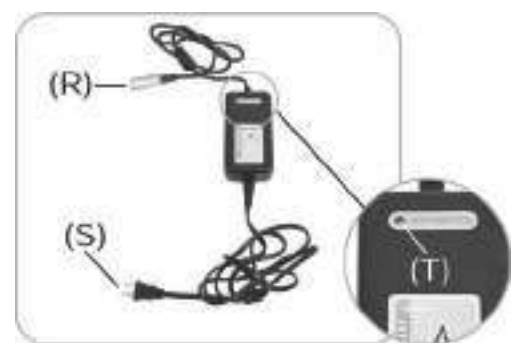

Figure 29
- Output Voltage: 100V~240V (Figure 29)
1. Charger output cable, 4pins ☹ connector (R)
2. AC power cord (S)
3. LED Indicator (T)